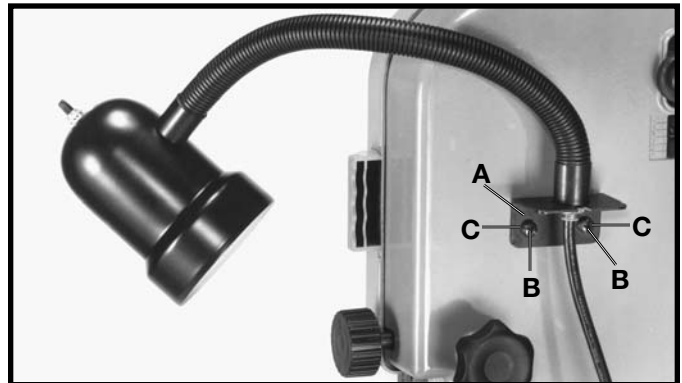

Fig. 12
1. Assemble the lamp bracket (A) Fig. 12, to the two holes located on the back top cover of the machine. Fasten the lamp bracket to the back top cover using two M6 x 12 sheet metal screws (B) and M6 lockwashers (C) and tighten.